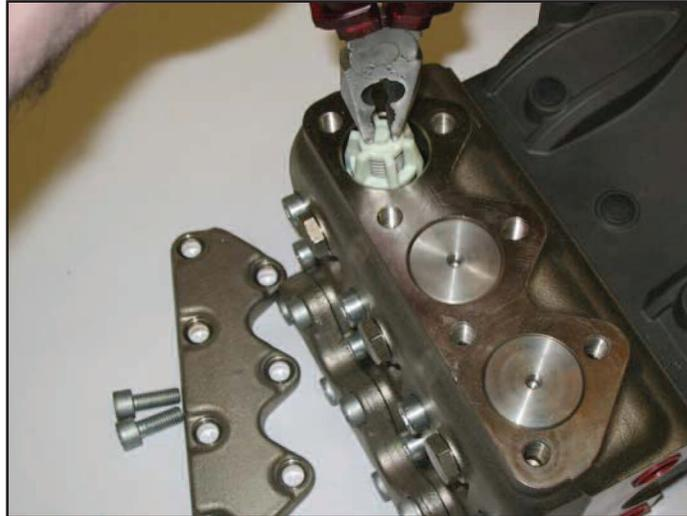

fig. 12
- A) Unfasten the 7 M12 x 35 valve cover screws, and remove the cover (fig. 12).
- B) Remove the valve plugs with an M6 threaded bolt (fig. 12).
- C) Remove the valve assemblies with a pliers to grab the valve cages (fig. 12).